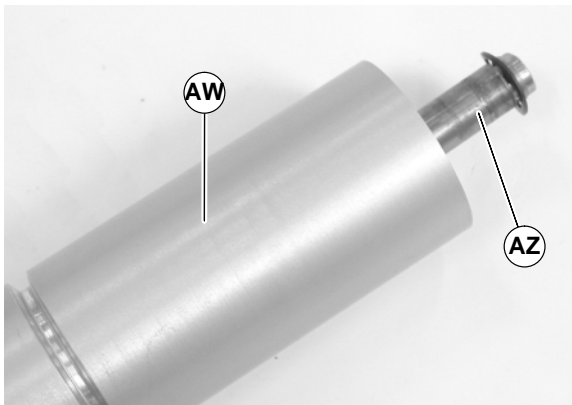

Figure 38
6. Slide the shaft assembly (AZ of Figure 38) out of the pulley (AW).